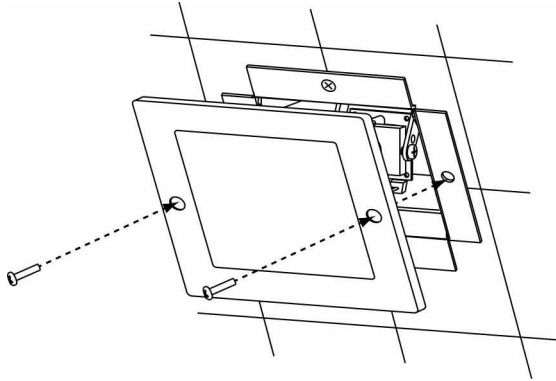

Figure 9. Angled flush-mount housing cover
- 8) Attach the cover plate to the housing. If you are installing a square housing, you must drill two additional mounting holes for the cover plate. See Figure 9 or 10.